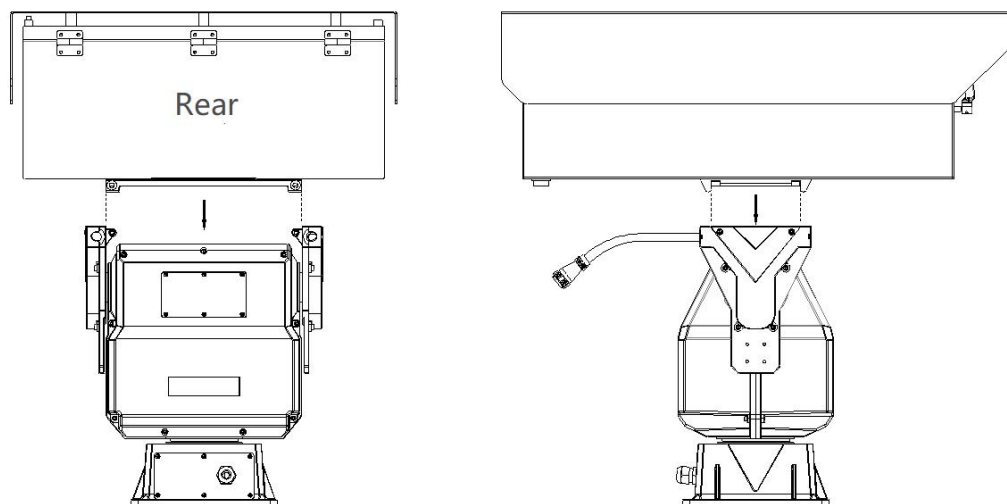

Figure 2.5 Install Protective Cover
5. **Step 5** Drill four mounting holes on the mounting surface according to the instructions as shown in figure 2-5.